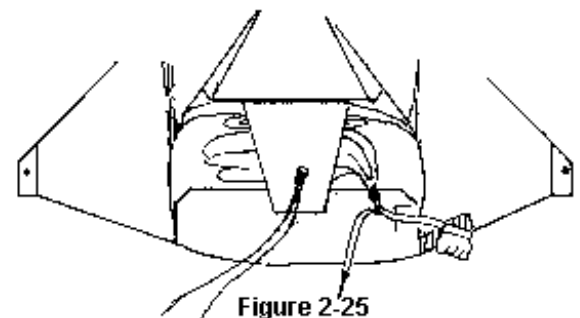

Figure 2-25
Step 29 Thread the pull-up cord through the #2 sub flap grommet and pull the loop through as shown in *Figure 2-25*.